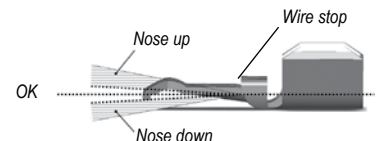

Figure 4
7. Remove and inspect the crimp. There should not be any noticeable distortion in the angle of the contact blade (See Figure 4).
NOTE: Distortion of the contacts can occur if the locator is not adjusted properly so that it is allowed to move. There should not be any noticeable distortion in the angle of the contact blade after crimping (See Figure 4).